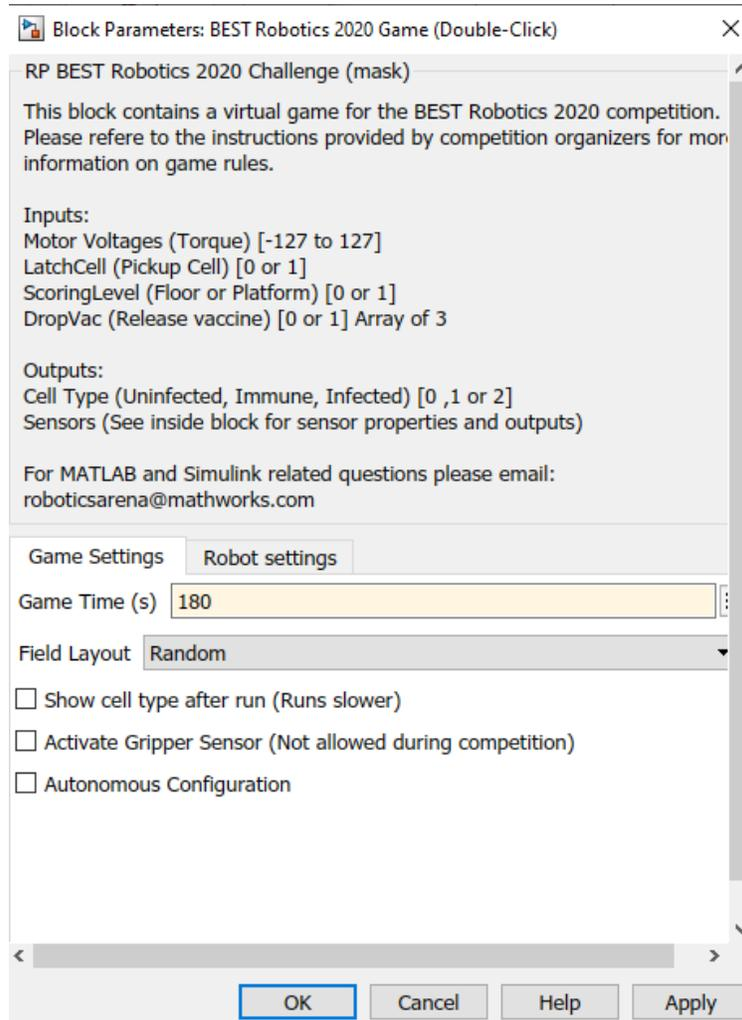

Figure 3.16. Virtual Game Time Trial Settings
- e. A simulation time of 180 seconds will be used for all driver-controlled competition time trials, as shown in Figure 3.16.
- f. The “Activate Gripper Sensor” checkbox must be unchecked for all driver-controlled time trials, as shown in Figure 3.16.
- g. The “Autonomous Configuration” checkbox must be unchecked for all driver-controlled time trials as shown in Figure 3.16.
- j. A simulation time of 180 seconds, as shown in Figure 3.16, must be used for all autonomous challenge time trials.
- k. The “Autonomous Configuration” checkbox, shown in Figure 3.16, must be checked for all autonomous challenge time trials.